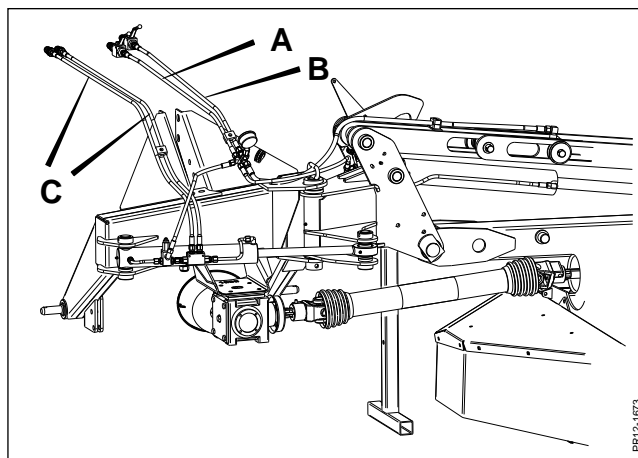

Fig. 2.5
- Fig. 2.5** The hydraulic hoses are connected to the tractor. Depending on the equipment of the mower, the number of hydraulic hoses vary from one to four.